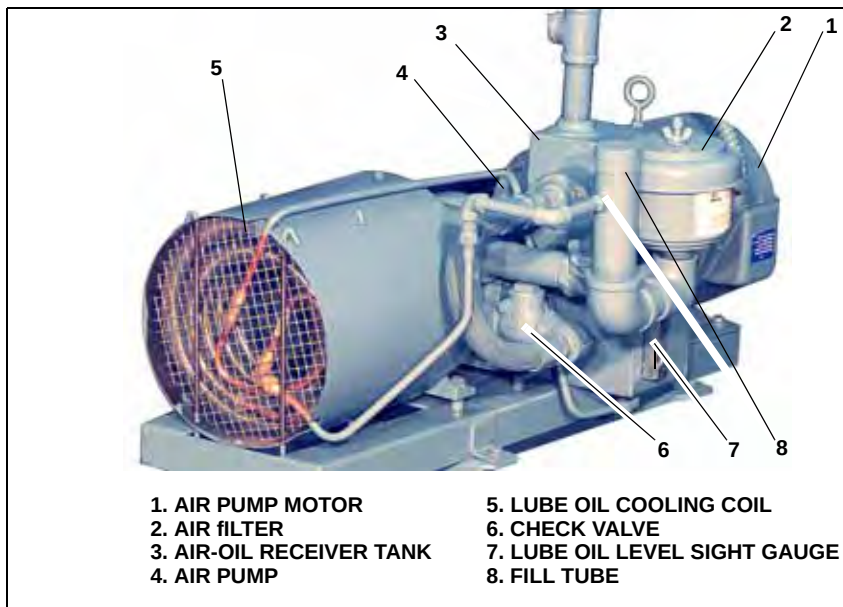

Figure 2-19 Air Pump (Primary Air)
9. Air Pump Module Assembly (**Figure 2-19**): Provides the compressed air required to atomize the fuel oil for proper combustion. It is started automatically by the programmer's sequence. It includes components described A-H (below).